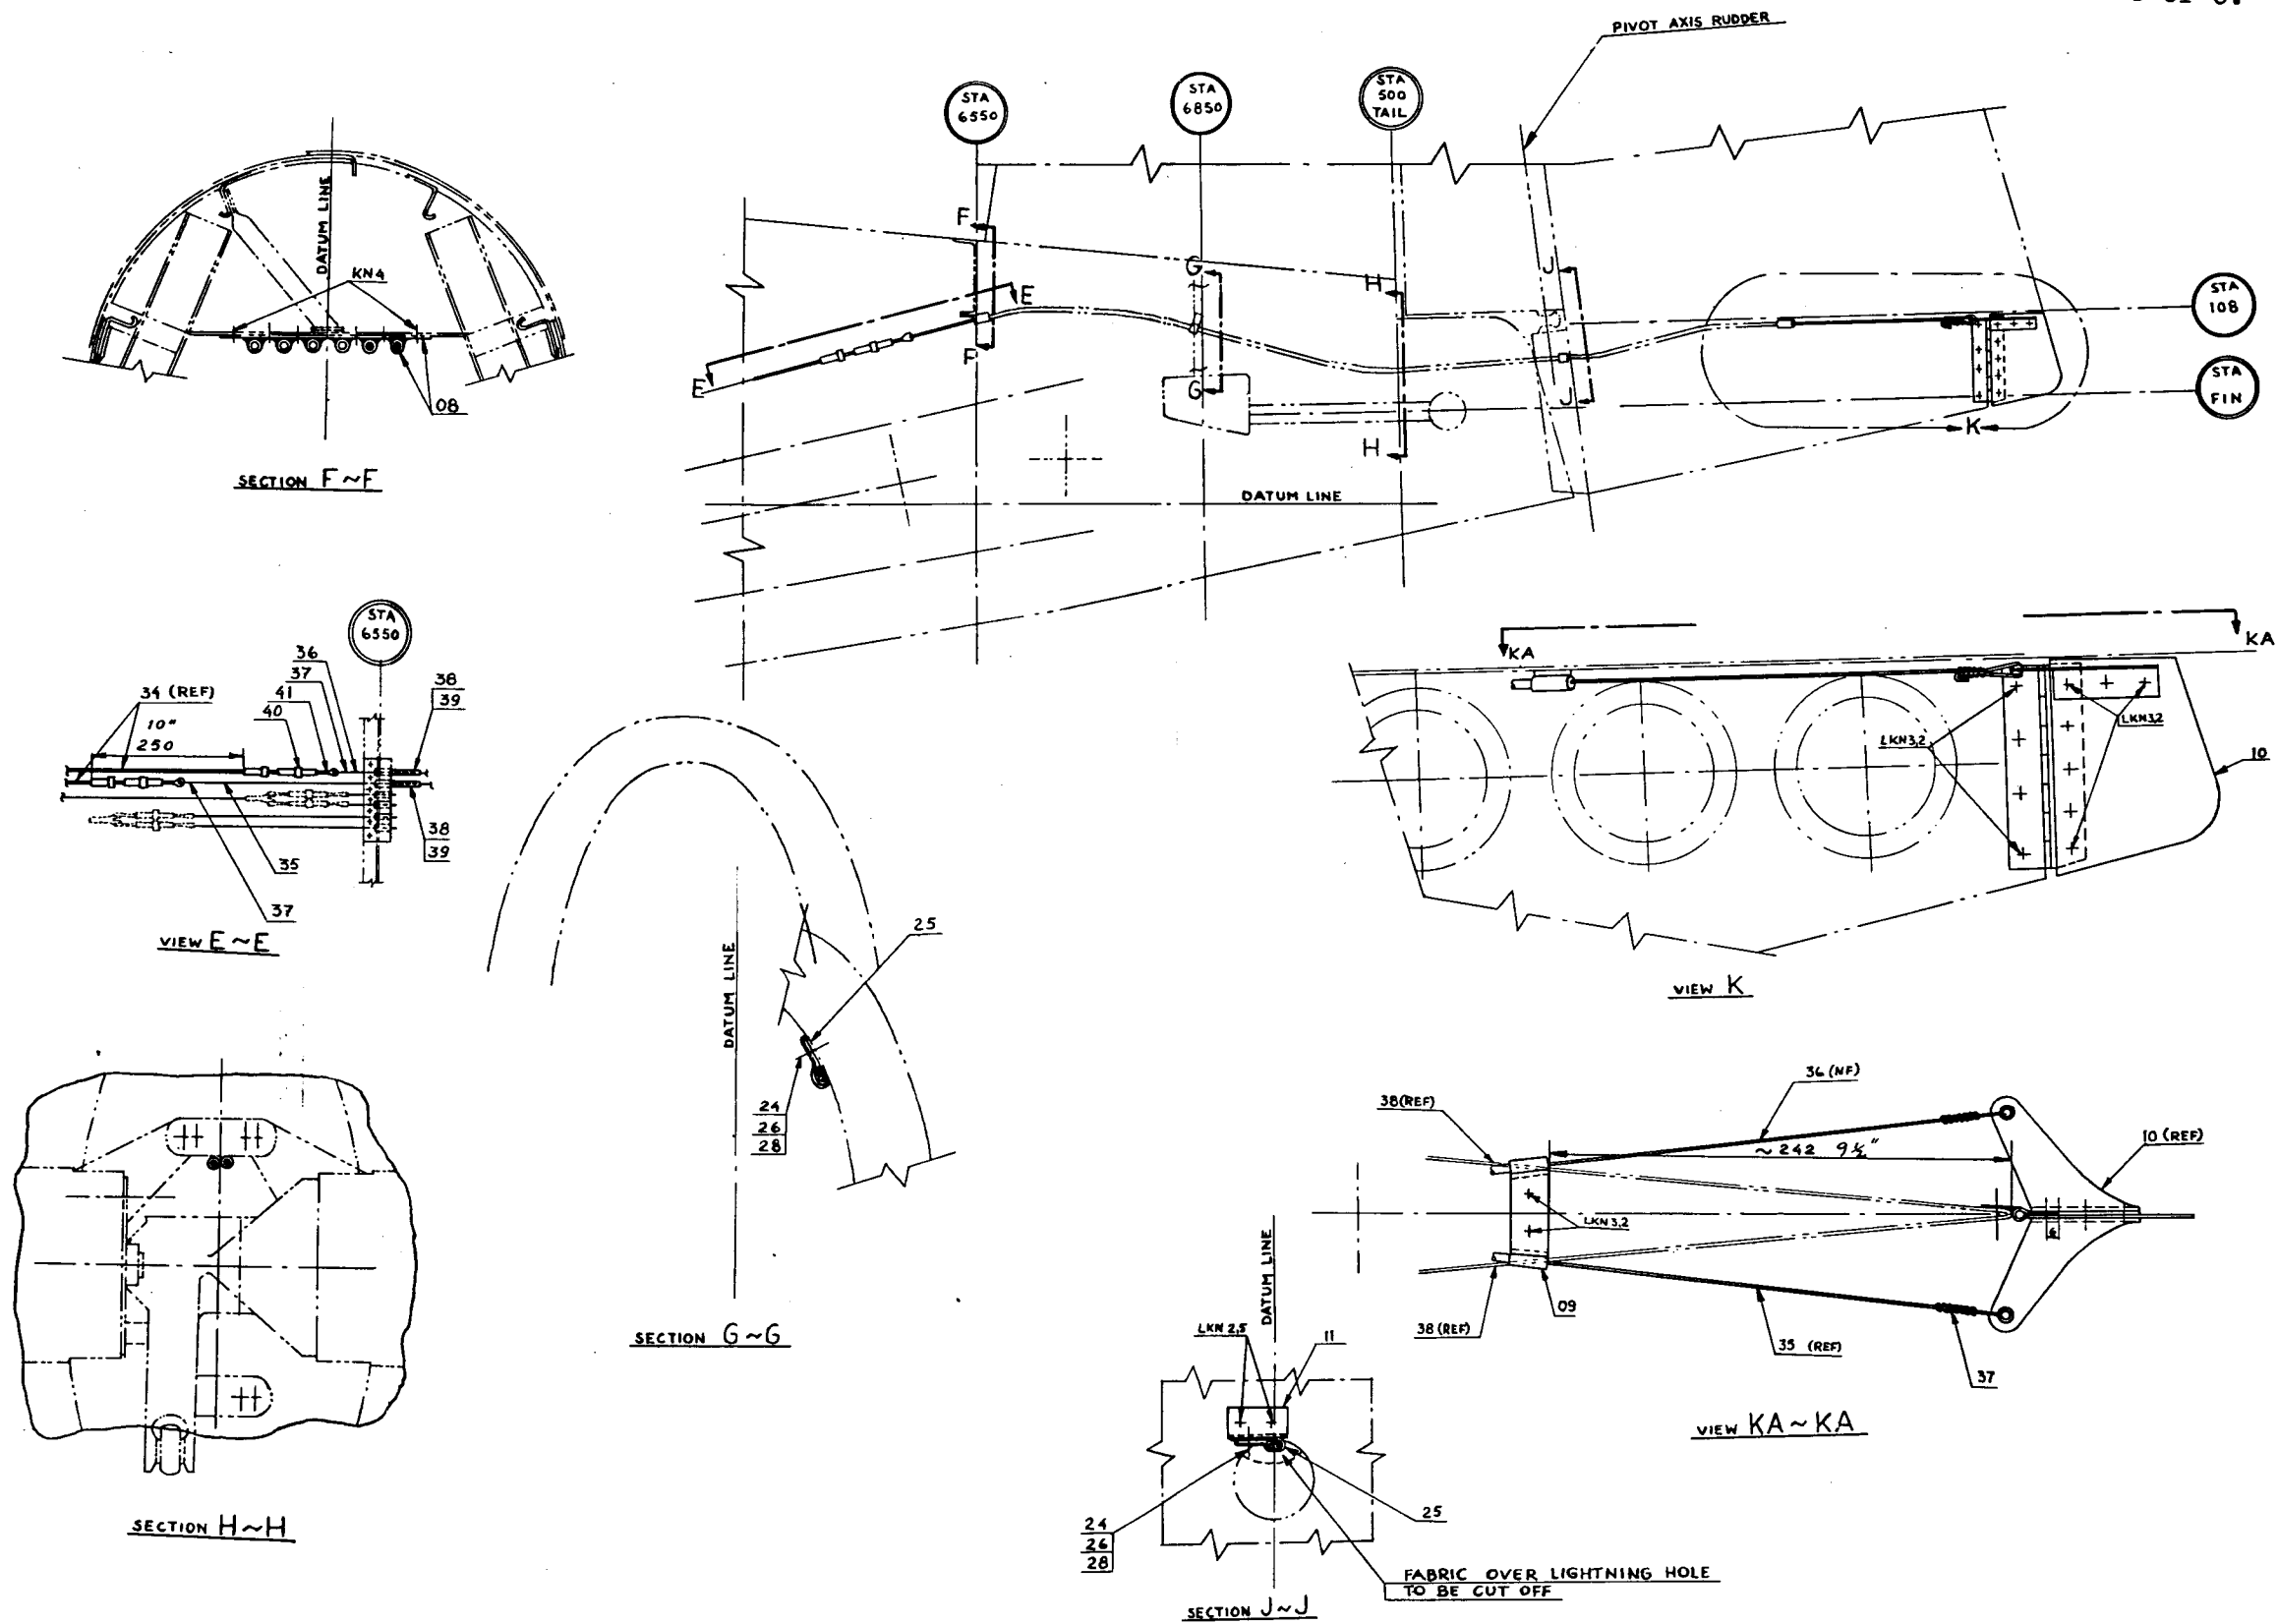

Fig. 2
Remove the existing bracket by drilling out the rivets and fit the new one item 08 view F-F and E-E fig 2.
Fit the bracket item 09 on the rudder  $\sim$  242 mm ( $9\frac{1}{2}$ " ) from the trailing edge view KA-KA fig 2.
Remove the existing trim tab by drilling out the rivets. Fit the trim tab item 10 by rivets view K and K-K, fig 2.
Check that the end pieces is displaced in relation to each other view E-E fig 2.
Fit piano wire item 35 and item 36 to the trim tab and secure by wire item 37 view K and KA-KA fig 2.